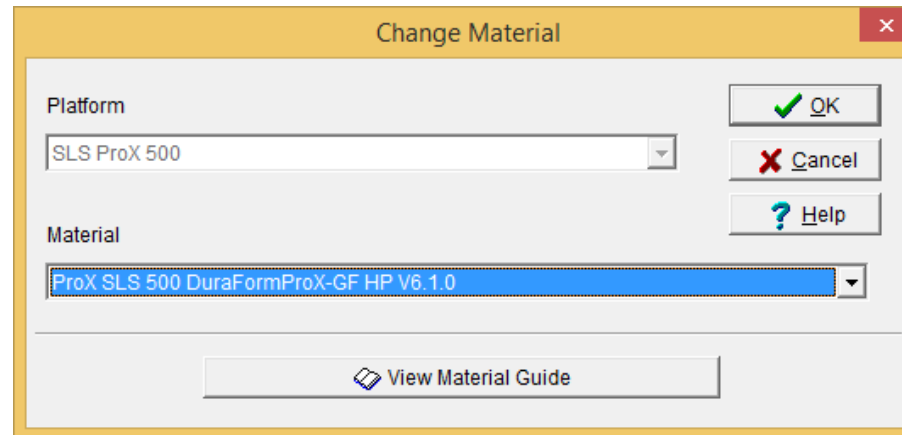

Figure 7
12. Before launching Sinter application, Set material in Build Setup (File >> Change Material...) (Figure 7).